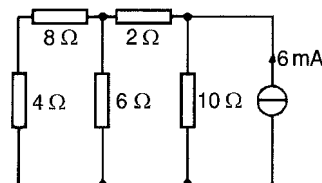

Figure 13.63
- 3 Determine the current flowing in the $6\ \Omega$ resistance of the network shown in Fig. 13.63 by using Norton’s theorem. [2.5 mA]